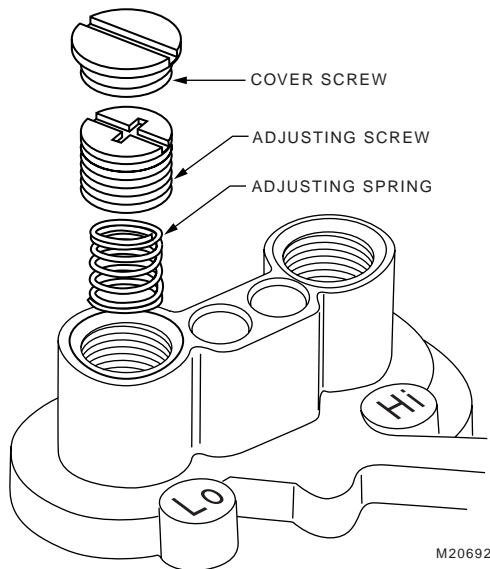

Fig. 7. Installing the spring kit into the V4944N.
## Valve Leak Test (See Fig. 7).
1. De-energize the control system to make sure there is no power to the safety shutoff valve (C) shown in Fig. 7.
2. Close the upstream manual gas cock (A).
3. Make sure the manual test petcock (F) is closed in the leak test tap assembly (D).
4. Remove the leak test tap plug (valve outlet pressure tap can be used as a test tap) and connect the test apparatus to the leak test tap (D).
5. Close the downstream manual gas cock (E).
6. Open the upstream manual gas cock (A).
7. Run the safety shutoff valve (C) to its fully open position (through the safety system); then immediately de-energize the system to close the valve.
9. Slowly open the test petcock (F).
## Installing and Adjusting Spring Kits (Fig. 7)
4. Adjust the gas output pressure with the adjustment screw (see Fig. 7).
3. Verify that the low and high fire regulating spring kits have been installed. Remove the cover cap and make sure the adjusting screw is in place (see Fig. 7).